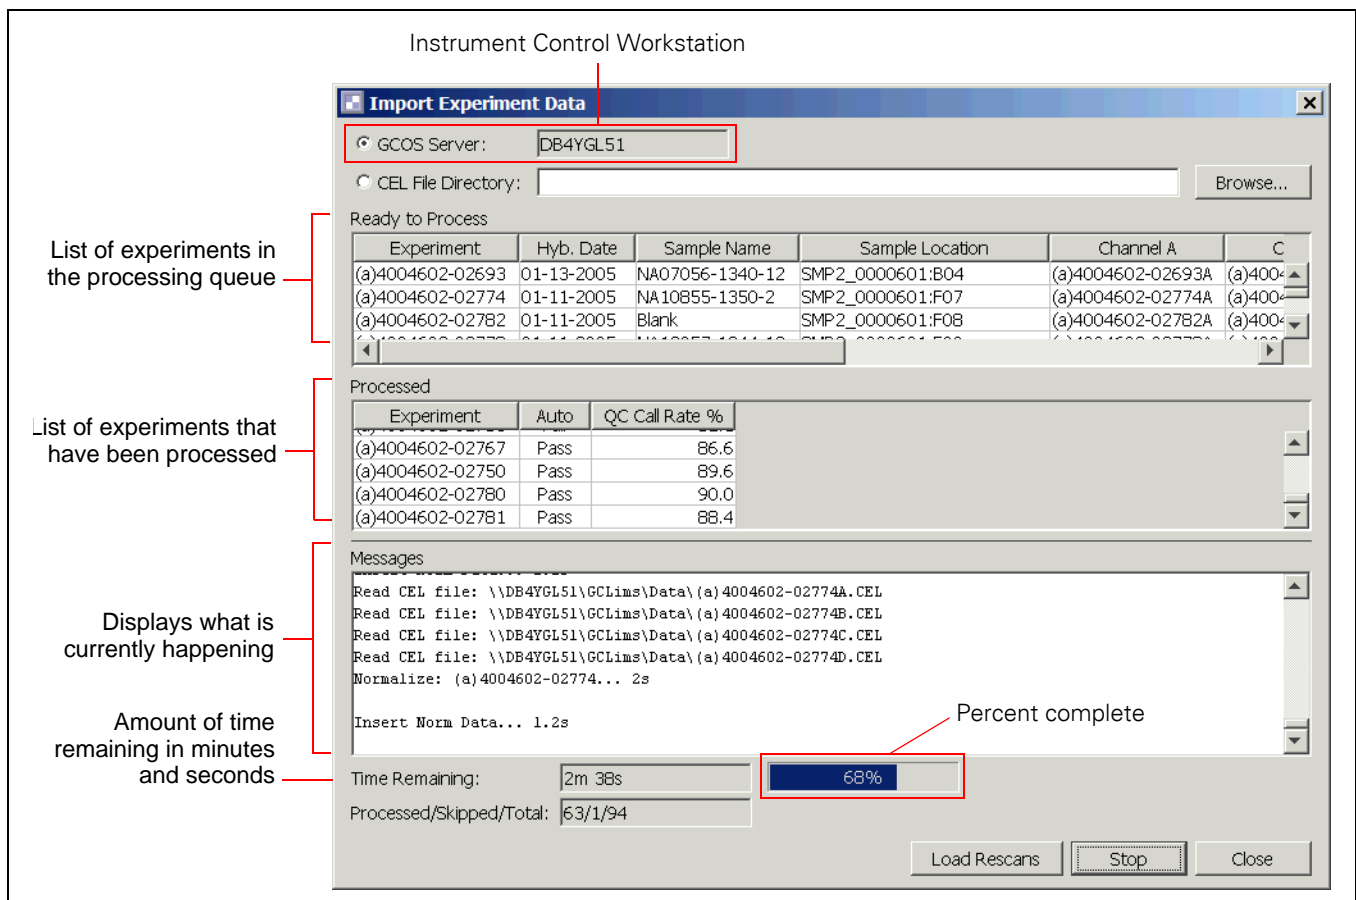

Figure 3.6 In Progress .cel File Import
GTGS imports and processes the array data stored in .cel files directly from folders or from GCOS. As described below, the Import Experiment Data window (Figure 3.6) allows you to view the progress of this operation.
3. Select the **GCOS Server** radio button (Figure 3.6 on page 29).
Notice that the previously empty columns in the Experiment QC Summary table in the right pane have been populated (Figure 3.6).